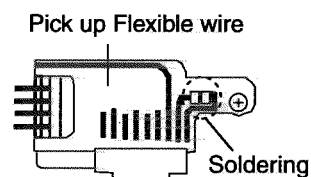

Fig.3
**CAUTION:**Whenever the flexible wire is disconnected, be sure to remove the soldering in advance as shown in Fig.3. Otherwise, the CD mechanism assembly can possibly be damaged.